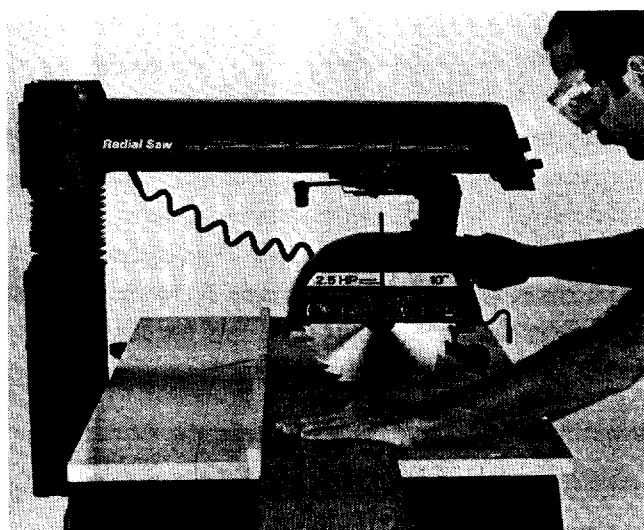

Fig. 102 Distance Needed to Complete Crosscut
13. Pull blade through fence and workpiece just enough to complete the cut. Fig 102